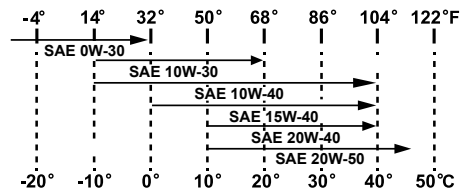

Figure 5-21
5. See Figure 5-21 for oil recommendations.